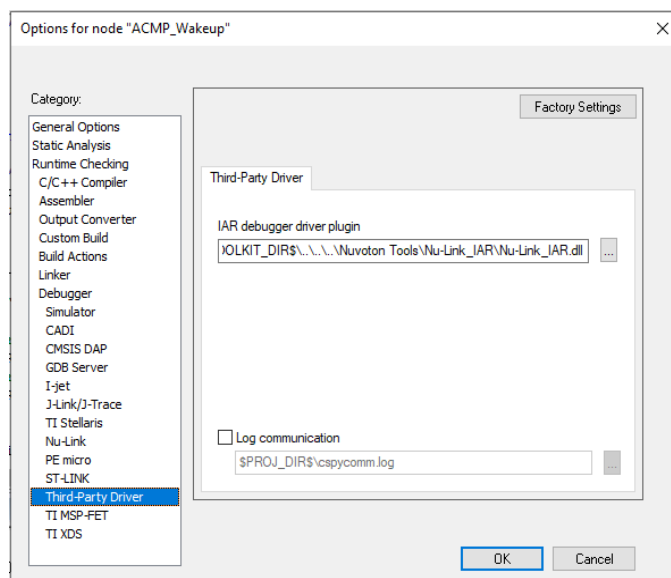

Figure 5.2-31 Set the Path of the IAR EWARM Debugger Driver Plugin
- (7) In the **Third-Party Driver** page, specify the path of the IAR debugger driver plugin "C:\Program Files\Nuvoton Tools\Nu-Link_IAR\Nu-Link_IAR.dll", as shown in Figure 5.2-31.